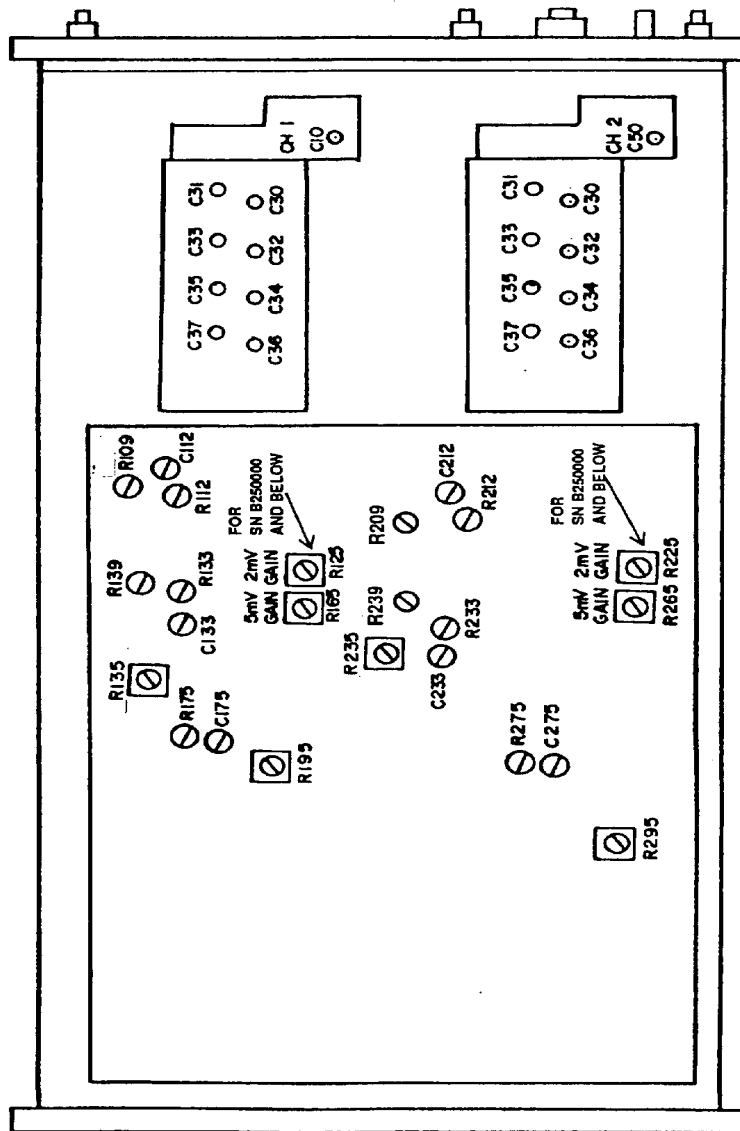

Figure 1. Left side view.
(1) Ensure **CH1 VOLTS/DIV** switch is set to **5 m (10 m** for Tektronix, Type 475A).
(2) Adjust **CH1 POSITION** control to align trace on center horizontal graticule line.
(3) Set **CH1 VOLTS/DIV** switch to **2 m (5 m** for Tektronix, Type 475A). If trace does not remain aligned with center horizontal graticule line, adjust R135 (fig. 1) to align trace with center horizontal graticule line.
(4) Repeat (1) through (3) above for minimum trace shift when changing **CH1 VOLTS/DIV** switch from **5 m** to **2 m (10 m** to **5 m** for Tektronix, Type 475A).
(5) Press **VERT MODE CH2** pushbutton.
- (6) Repeat technique of (1) through (4) above using **CH2 POSITION** control and adjusting R235 (fig. 1).
- (7) Press **VERT MODE CH1** pushbutton and set **CH1 AC-GND-DC** switch to **DC**.
- (8) Set **CH1 VOLTS/DIV** switch to **2 m** (**5 m** for Tektronix, Type 475A) and connect TI **CH1** to oscilloscope calibrator **CHAN 1**.
- (9) Press oscilloscope calibrator **VOLTAGE** pushbutton to illuminate green **LED** and set frequency to **1 kHz**.